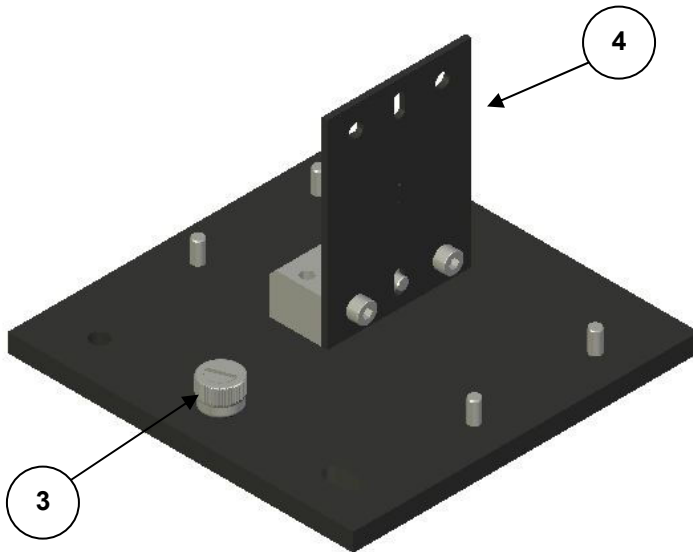

Figure 2. Alignment baseplate for the Varian Spectrometer.
To verify the correct beam alignment for the Varian LS optical bench sample compartment, the Alignment baseplate will be provided as part of the installation kit. (See Figure 2 for an illustration of the Alignment baseplate.)
The Alignment baseplate is provided with two different aperture plates (4). When the aperture plate is correctly, centrally positioned, one of them will present a small diameter aperture for the beam to pass through and the other will be a larger diameter aperture. Only one aperture plate at a time is needed to be installed on the Alignment baseplate for the Alignment check. (N.B. ensure the aperture plate (4) is located in the correct orientation as seen at Figure 2.)
When the Benchmark™ baseplate has been installed, fix the Alignment baseplate with the smaller aperture plate (4) centrally in the position and orientation as shown from Figure 2. The aperture plate is push fitted over the retaining pins on the Alignment baseplate. Use the Varian operating software to obtain an image from the detector array. With no aperture in the sample compartment, the IR image should appear as a flat field as shown below from the Lancer control.